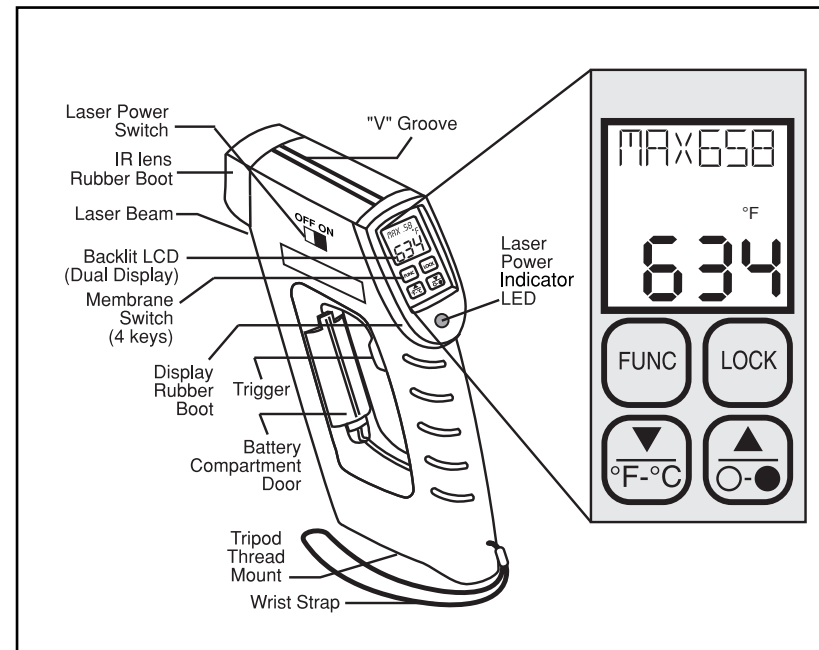

Figure 1-1. OS530 Series Handheld Infrared Thermometer Front View
- 1a. (Without the Laser Sighting) - Aim the thermometer at the target to be measured. Use the V groove (shown in Figure 1-1) on top of the thermometer to align the target to the thermometer's field of view. Look down the V groove with one eye only, in order to guarantee proper sighting. Pull and hold the trigger.